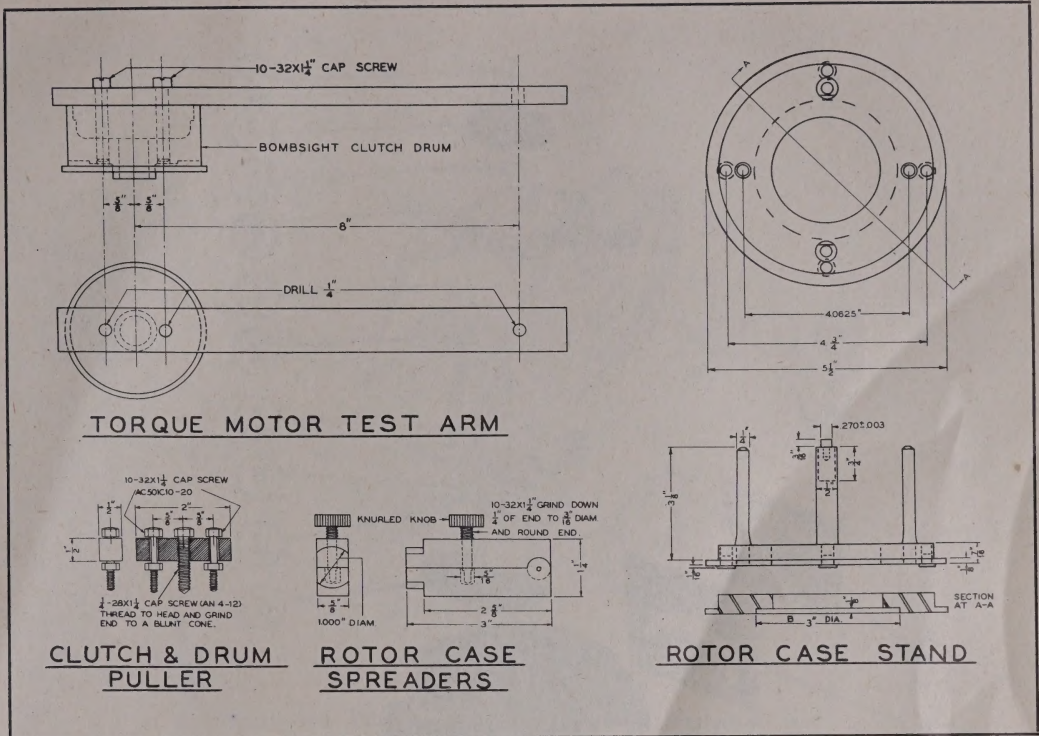

Figure 236 — Special Tools, Stabilizer
(1) The following special tools should be available for use in disassembly, inspection, repair, and reassembly of the directional stabilizer, in addition to an assortment of standard tools, such as screw drivers, plier, wrenches, etc.
(2) SPECIAL TOOLS. (See figure 236.)
(a) Place the rotor on the rotor case stand. (See figure 236.)